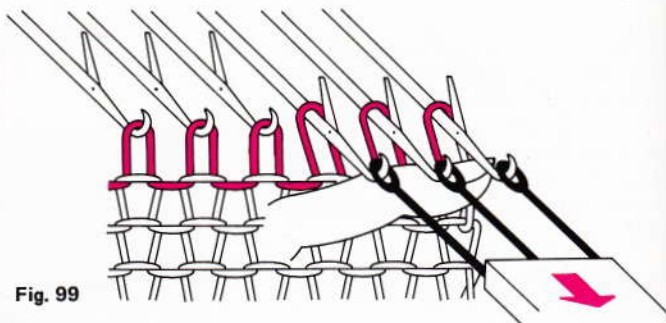

Fig. 99
- With the left hand hold the knitting against the needle bed and using the 3-stitch transfer tool pick up the 3 edge stitches (figs. 99 and 100).